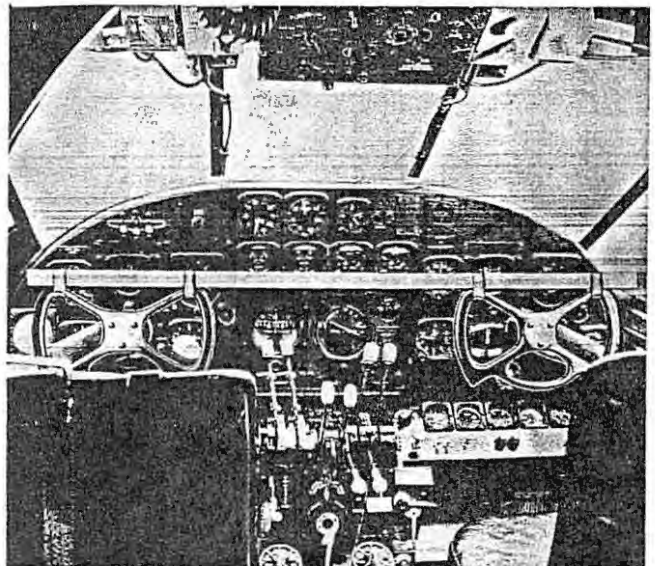

Figure 2-30. Straightedge Installation Control Wheels
a. Attach a straight edge across the control column wheels (figure 2-30) to hold them in neutral position.